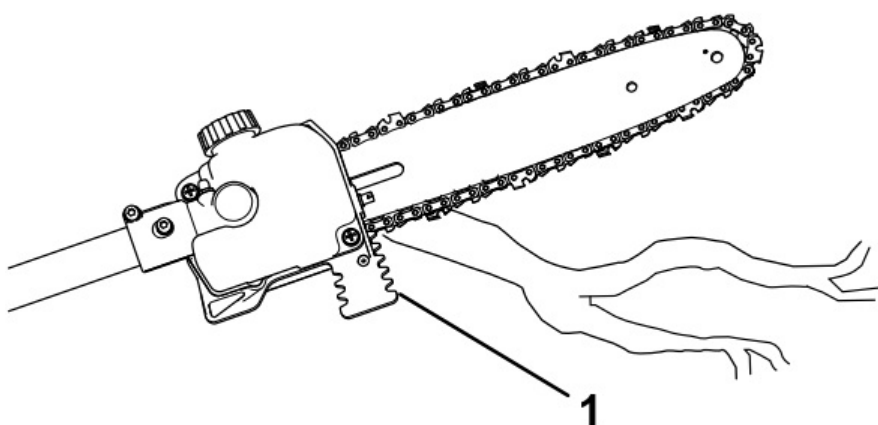

Figure 10
5. Cut with the branch near the rear of the guide bar, close to the cutting guide; press the saw chain lightly against the wood and allow the weight of the pole saw to drive the cutting (**Figure 10**).